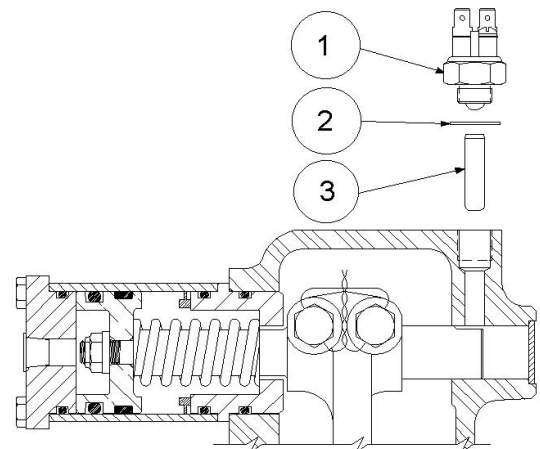

Fig. 82
40. Install the front drive engagement indicator switch pin (3) such that the rounded end of the pin is facing the shift shaft.
41. Install the indicator switch (1) using one copper washer (2). Note: it may be necessary to use two washers for proper switch operation. See Fig. 82.